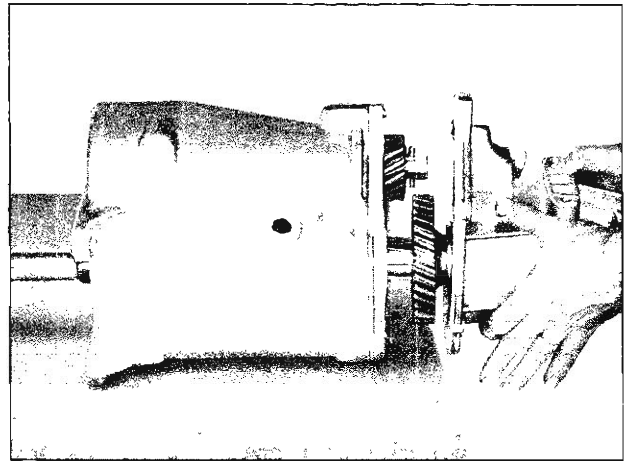

Fig. 24M—Installing Case Extension
18. Pull reverse shifter shaft to left side of extension and rotate shaft to bring reverse shift fork forward in extension (reverse detent position). Start the extension onto the transmission case (fig. 24M), while slowly pushing in on the shifter shaft to engage the shift fork with the reverse gear shift collar. Then pilot the reverse idler shaft into the extension housing permitting the extension to slide onto the transmission case.